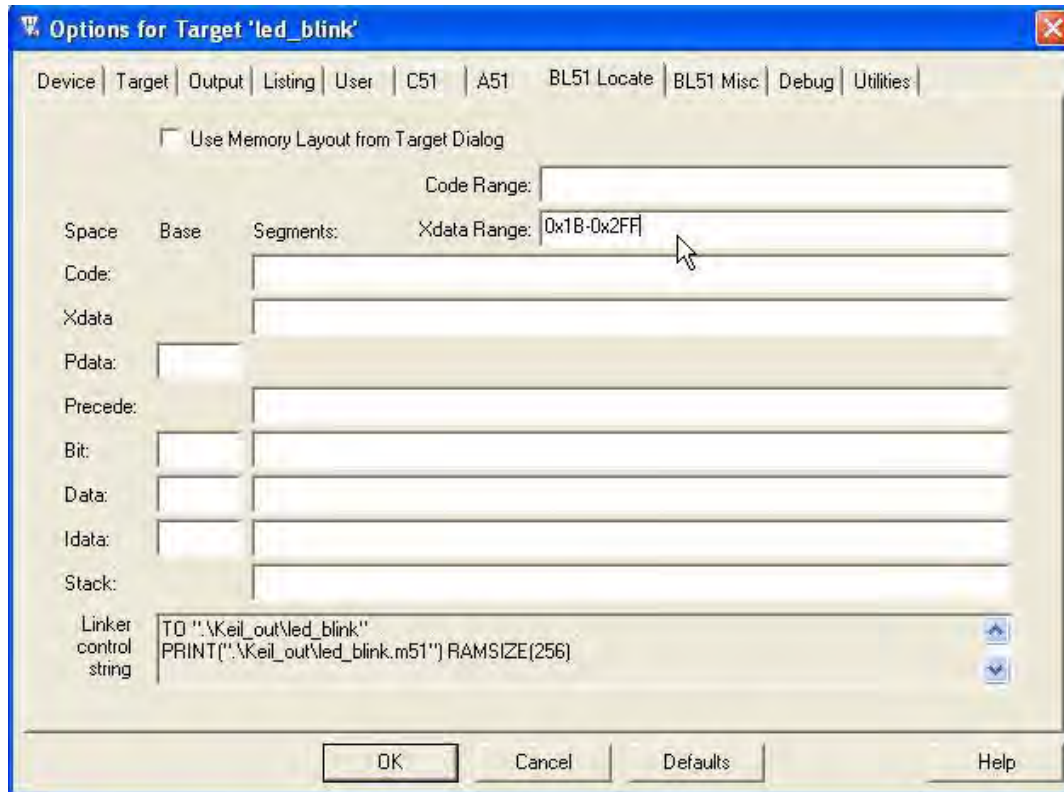

Figure 21. XData Range
3. Enter a range for acceptable XData addresses, in either the XData range or the XData fields (see Figure 21), in a manner similar to setting the range for code memory to exclude the vector table. In this case, the range would start at 0x1B (therefore excluding the memory-mapped LCD segments) and end at 0x2FF (the extent of XData in the Z51F3220 memory map).